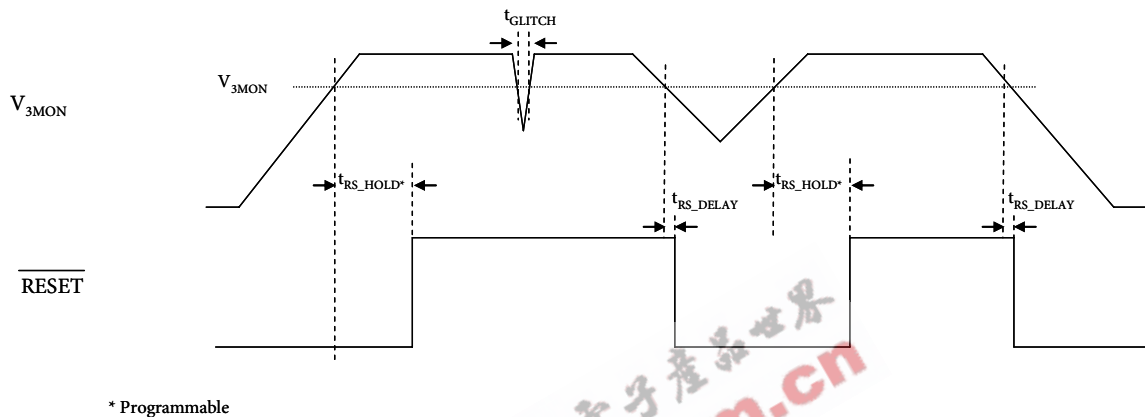

Figure 8. V_{3MON} $\overline{\text{RESET}}$ Timing Diagrams
V_{3MON} is a low-voltage monitoring input that controls the $\overline{\text{RESET}}$ function of an external device. V_{3MON} monitors inputs from 2.5V to 5.5V. It has an 8-step programmable reset threshold with an 8-step 0.1ms-200ms reset hold time. The reset hold time means that the reset of the external device is held until the programmed-time is reached. The V_{3MON} and reset timing diagrams are shown in Figure 8. The range of
4. When the external monitoring processor cannot issue the necessary WDI signal and an Advanced WDI mode is selected, Figures 8 and 9.
2. When $V_{3\text{MON}}$ drops below the threshold, Figure 8.